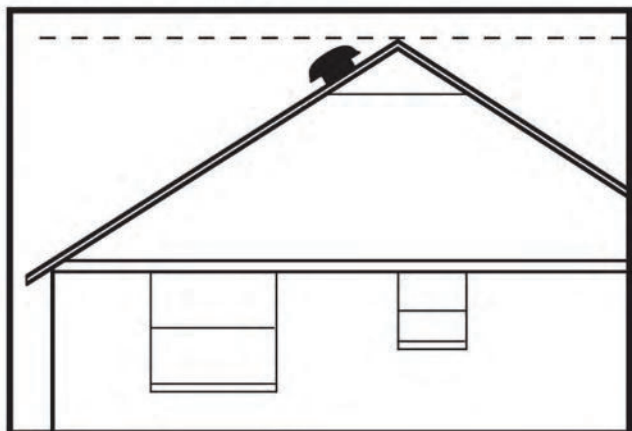

FIGURE 2: NAILING PATTERN
4. Mount the unit in the circular hole and secure the flange into place with galvanized roofing nails using the nailing pattern in **Figure 2**.
6. With the unit parallel to the ridgeline, slide the top flange of the unit up under the shingles (some roofing nails may need to be removed). Position the unit on the reference square. With the unit so located, apply a generous amount of roofing compound between the flange and the shingles, approximately 1" in from the perimeter of the flange. Secure the flange to the roof using galvanized roofing nails following the nailing pattern in **Figure 2**. Nail through the shingles and flange to the roof decking. Apply a small amount of roof cement over nails.